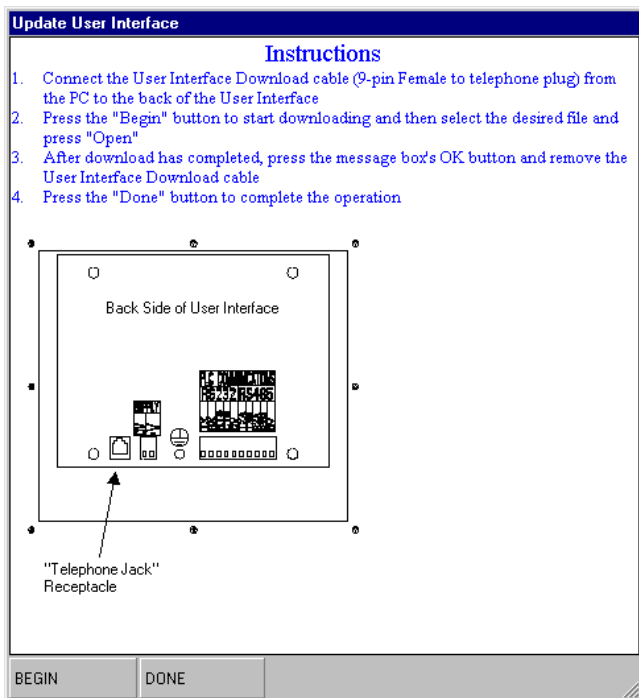

Fig. 13.38
2. An Instructions window to Update User Interface Program will appear. See Fig. 13.38.
4. Press the BEGIN button in the Instructions window to begin the update. See Fig. 13.38.